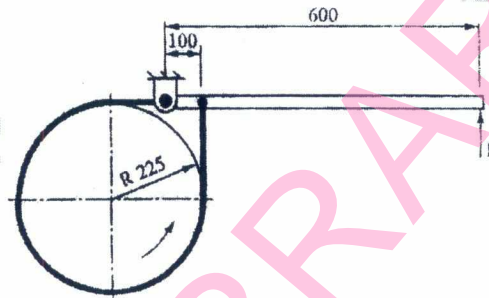

Fig.Q6(b)
- b. A band brake arrangement is shown in Fig.Q6(b). It is used to generate a maximum braking torque of 200 N-m. Determine the actuating force 'P', if the coefficient of friction is 0.25. The angle of wrap of the band is 270° . Determine the maximum intensity of pressure, if the band width is 30 mm. (10 Marks)